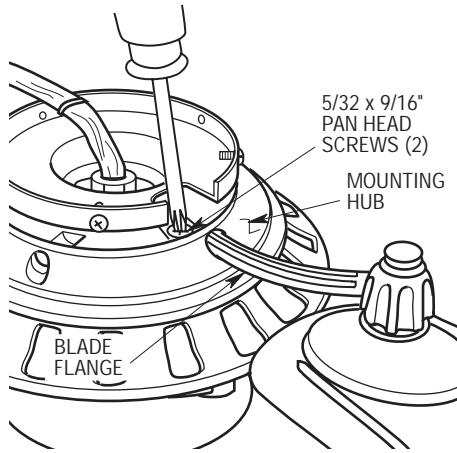

Figure 2
- 2. Insert a blade flange into one of the round holes in the mounting hub (Figure 2). Insert one 5/32 x 9/16" pan head screw (supplied) in one of the flange mounting holes; do not tighten. Install the second screw in the same manner; tighten both screws securely. Repeat this procedure for the other four blade assemblies.